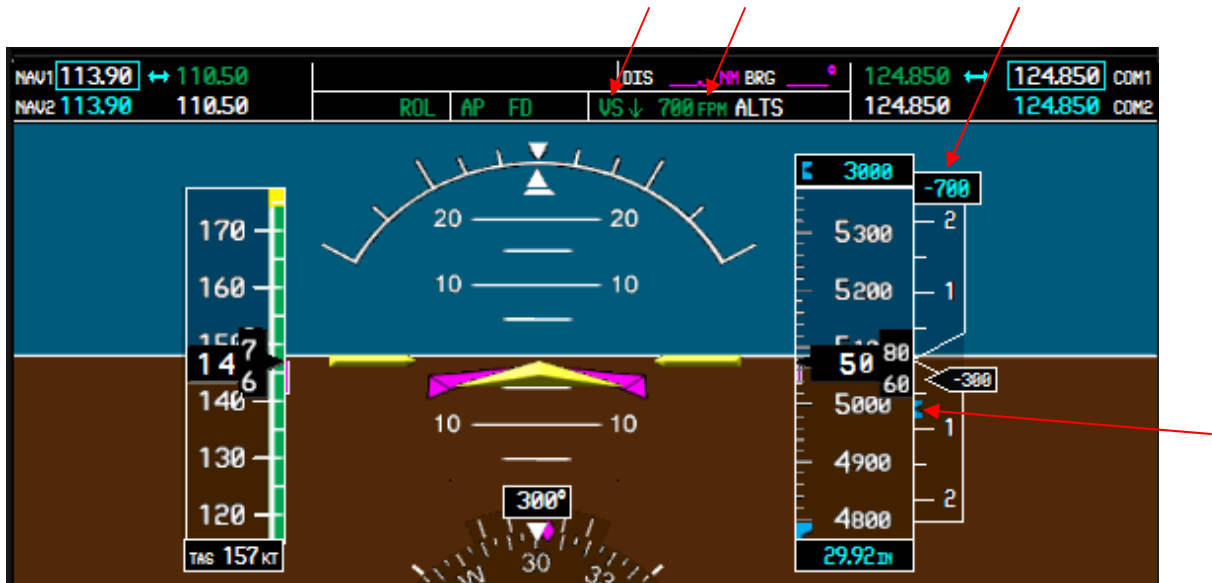

Figure 10.5
13. **VS Key** – activates/deactivates the Vertical Speed mode. In the VS mode, the AP will acquire and maintain a Vertical Speed Reference. When the VS mode is first activated, the current aircraft VS will be set as the Vertical Speed Reference. The Vertical Speed Reference can be changed using the FLC/VS reference wheel, or the UP/DOWN buttons. VS mode is indicated on the left side of the right AFCS Status box by a green colored 'VS' annunciation when activated, and a green arrow is displayed to the immediate right of the VS annunciation indicating the VS direction. The VS numerical value is displayed to the immediate right of the arrow. The Vertical Speed Reference is displayed in a box located directly above the VS Indicator, and a corresponding cyan colored VS reference bug is displayed on the left side of the VS indicator (Figure 10.5).